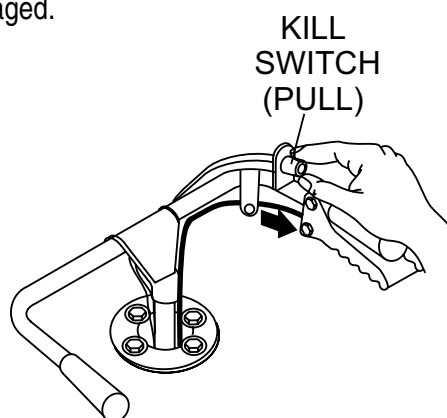

Figure 8. Kill Switch OFF
- Before attempting to start the power buggy, make sure that the **safety kill switch** (Figure 8) is not pushed in. The power buggy will not start with the kill switch engaged.